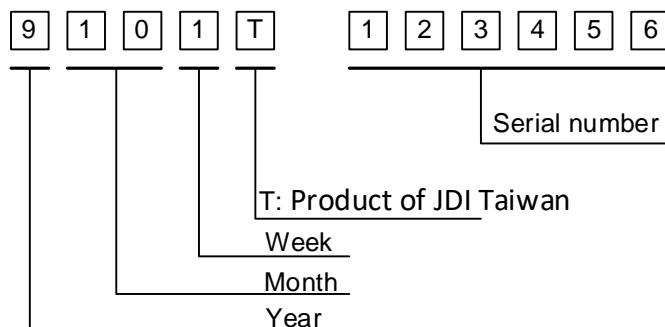

Fig. 14.1
- 1) The lot mark is showing in Fig.14.1. First 4 digits are used to represent production lot, T represented product of JDI Taiwan, and the last 6 digits are the serial number.